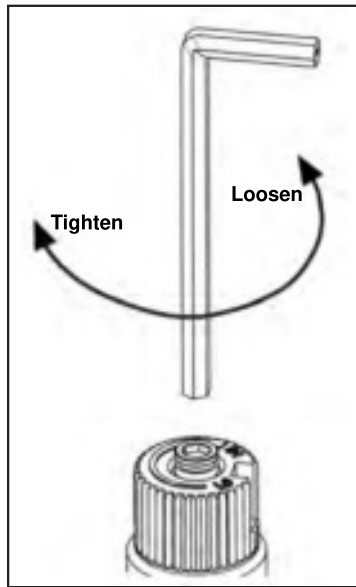

Figure 15: Removing valve screw.
- b) Insert a $\frac{5}{32}$ " or 4 mm Allen wrench into the hexagonal key-way of the screw (see Figure 15), rotate it counter-clockwise until it is free and extract it.
- e) Using the Allen wrench as shown in Figure 15, rotate the screw clockwise until a torque of 9 inch lbs. **WARNING!** Do not over tighten the screw. It is recommended that you grip the wrench by the short side.